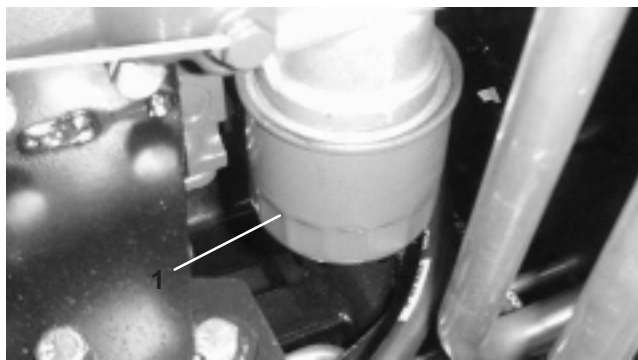

Figure 47
2. Remove oil filter (Fig. 47). Apply a light coat of clean oil to the new filter seal before screwing it on. **Do not over-tighten.**